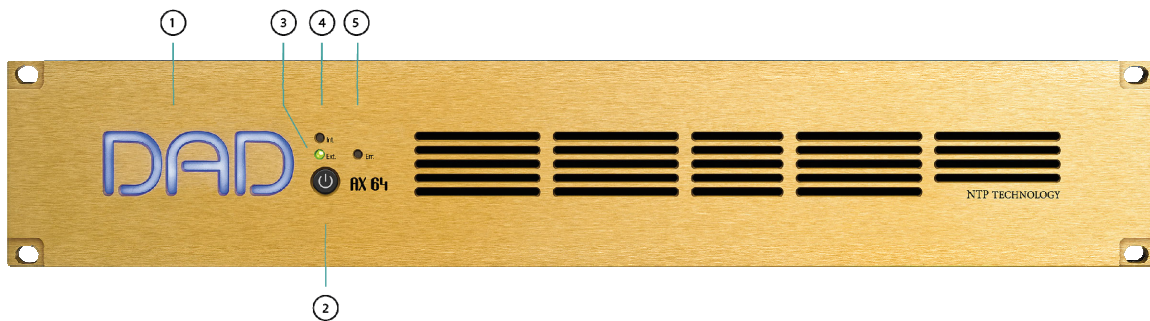

Figure 6, Front panel layout
5. Configuration can be done on the parameters shown in figure 6